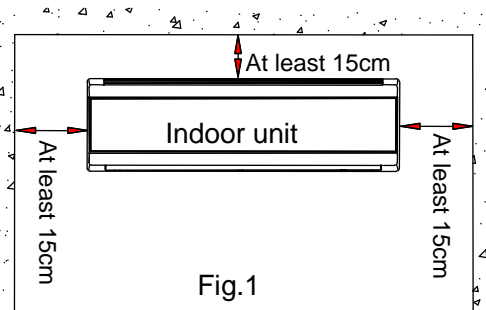

Fig.1
- Ensure the distance as required in Fig.1.
- The back of the indoor unit should be close to the wall(Fig.1)